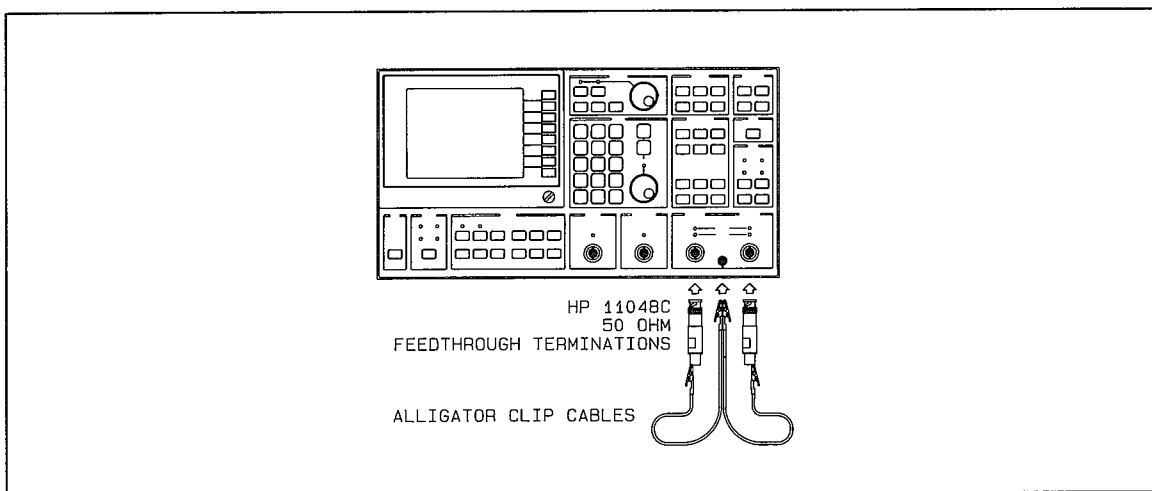

Figure 2-11 DC Offset Test Setup
- A. Connect the test instruments as shown in figure 2-11. Keep the leads to chassis ground as short as possible.